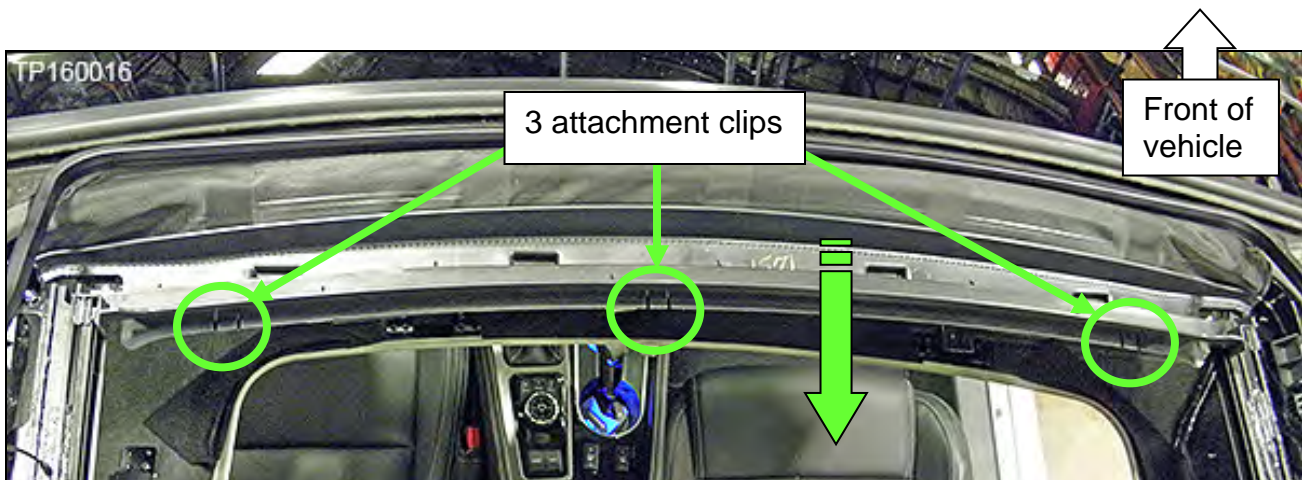

Figure 21
- a. Gently lift the 3 attachment clips with a small screw driver one at a time (Figure 21).
- b. Slide the wind deflector assembly toward the rear of the vehicle to release it from the moonroof frame (Figure 21).
5. Slide the wind deflector toward the front of the vehicle and snap the 3 attachment clips (shown in Figure 21) into the moonroof frame.